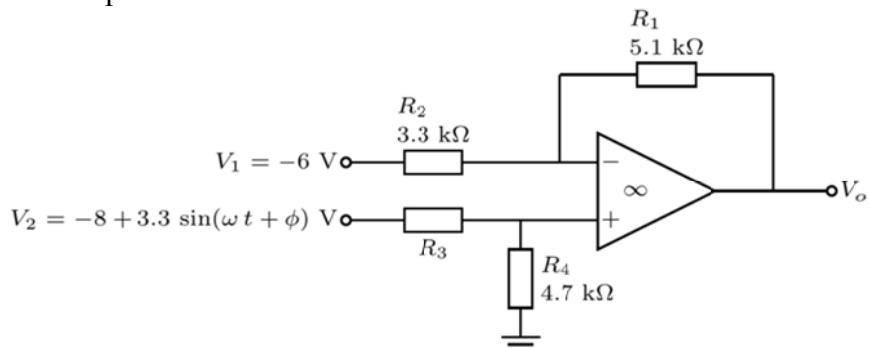

Figure 6c
- i) Find the output voltage as a function of the input voltages. (3)
- ii) Based on your answer to 6. b. i. deduce and state briefly the function of the circuit. (1)
- c. The opamp circuit in figure 6c is a “subtracting circuit” and is also called a “difference amplifier”.